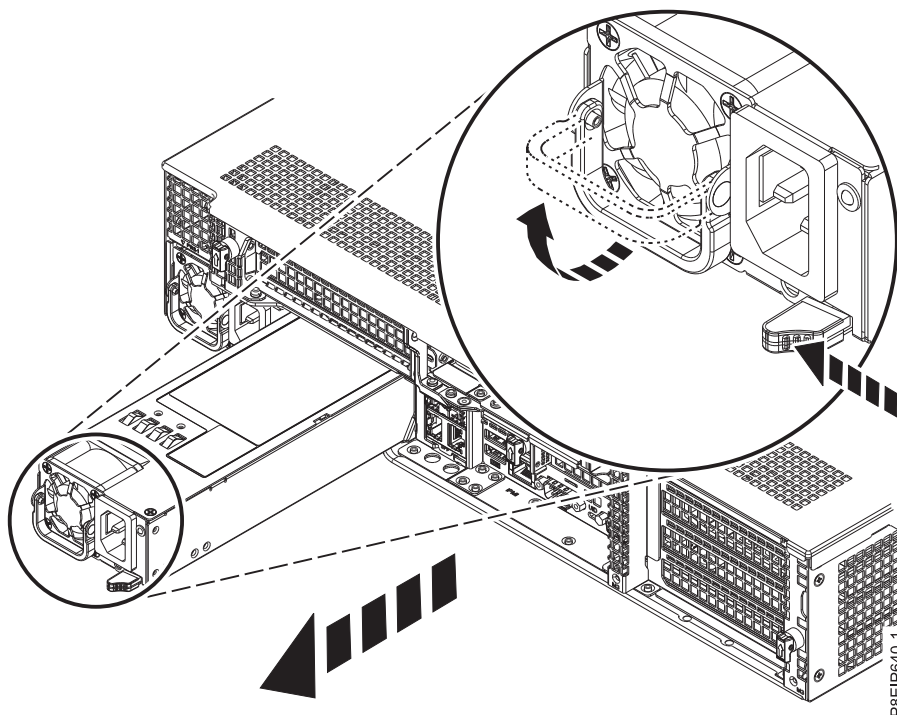

Figure 80. Removing a power supply from the system
- a. To unseat the power supply from its position in the system, push the locking-tab to the left as shown in Figure 80.